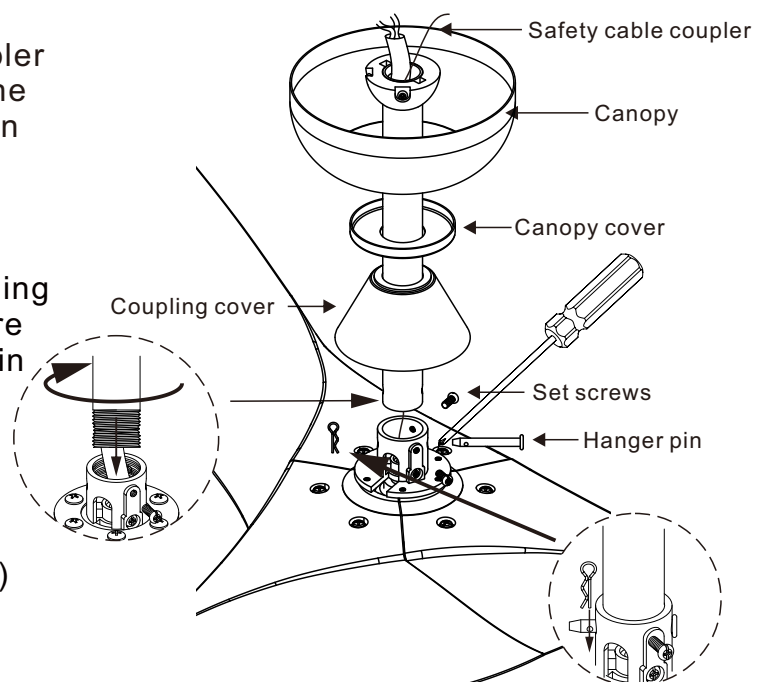

Figure 15
Step 5. Route the wires and safety cable coupler exiting from the top of the fan motor through the coupling cover, canopy cover and canopy, then through the ball/downrod. (Fig. 15)
Step 6. Thread downrod into the motor coupling until the holes on the downrod and coupling are lined up (Fig.15) Carefully insert the hanger pin through the holes in the collar and downrod. Be careful not to jam the pin against the wiring inside the downrod. Insert the locking pin through the hole near the end of the hanger pin until it snaps into its locked position, as noted in the circle inset of (Fig.15)
Step 7. Tighten two set screws against the downrod on the coupling firmly. (Fig. 15)